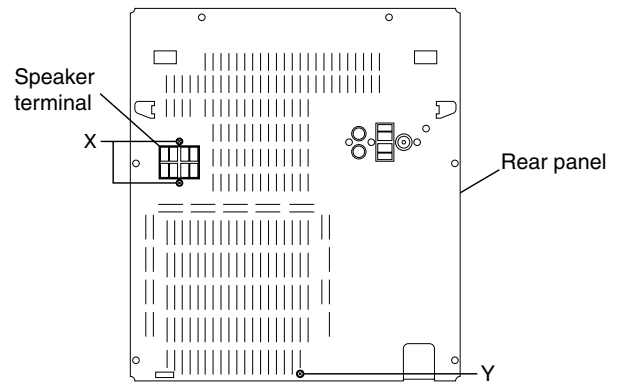

Fig.33
- Also remove the rear panel. (See Fig.33)
■ Removing the power amp and supply PCB and the power trans PCB (See Fig.33 to 37)